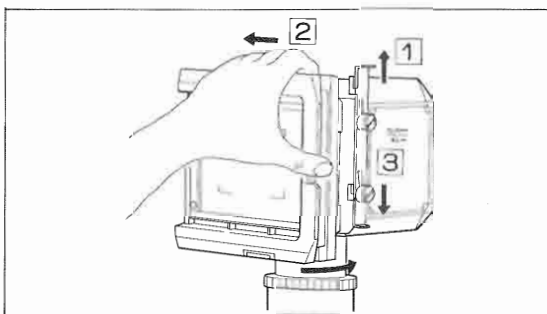

Fig. 28
1) 4"×5" film adapter installation (Fig. 28)